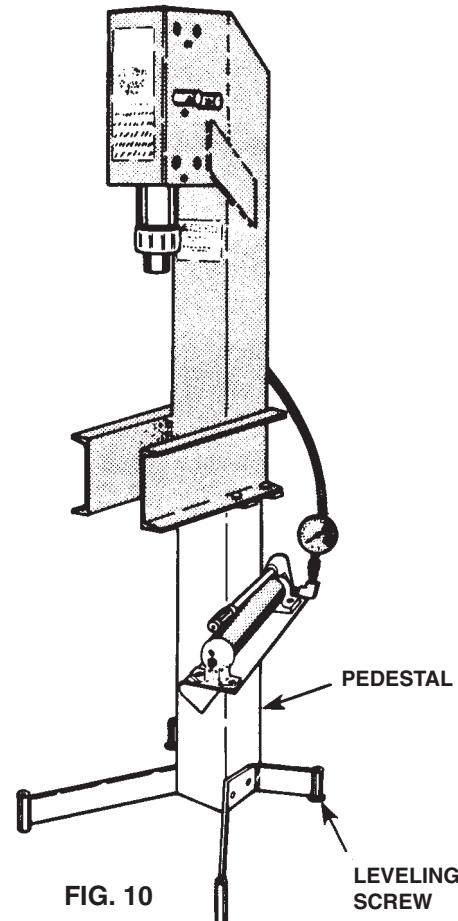

FIG. 10
- After the assembled press/pedestal has been moved to its desired location, level the machine using two leveling screws shown in FIG. 10.